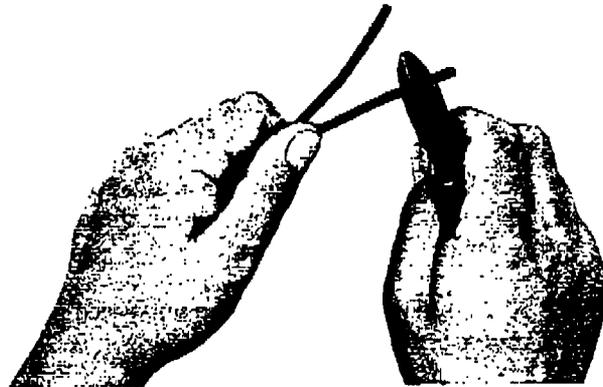

Fig. 6—Nicking Insulation
- (2) Using diagonal pliers, nick insulation circumferentially 3/8-inch from end (Fig. 6). *Caution should be observed to avoid nicking or cutting through a conductor.*